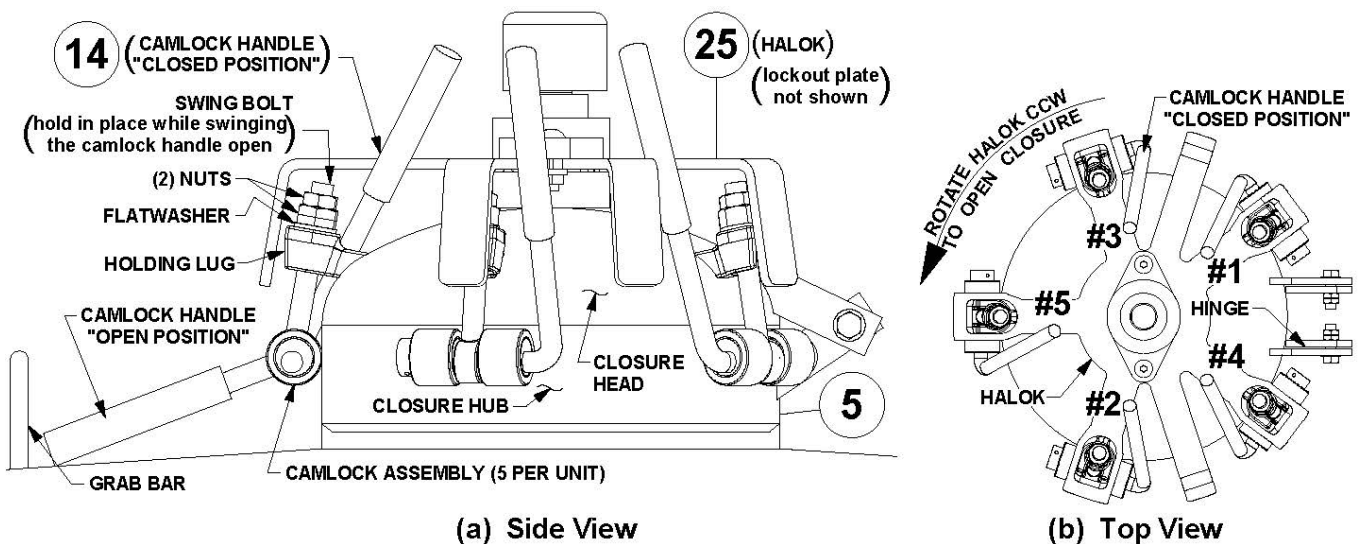

Figure 6.3.2 – Bulk Abrasive Blaster Closure Assembly
- 6.3.5. With all the camlock handles (#14) in the “open” position the Halok can be rotated counter-clockwise to allow access to the swing bolts (see Figure 6.3.2). Manually swing each swing bolt out over the holding lug.
6.3.7. Each time the closure assembly is opened all the camlock assemblies and hinge assemblies must be inspected for damage, including but not limited to, corrosion, cracks, and deformations. Make sure all the swing bolts, nuts, washers, cams, spring pins, and handles are in place (See Drawing 9.3(a)). Inspect the threads of each swing bolt and (2) nuts for corrosion or wear. Each camlock assembly and hinge must be tested for ease of operation. Any camlock, swing bolt, nut, or hinge that show signs of damage, corrosion, wear, or does not swing freely must be repaired or replaced *before* re-pressurizing the blast vessel. The camlock handles must be installed into the cam lugs as shown in Figure 6.3.2(b) so there is no interference with closure head handle or hinges and to insure proper operation of the closure Halok® (#25). The torque on the camlock assembly nuts must be properly adjusted. See Sections 8.4 and 8.5 for closure assembly maintenance instructions and adjustment procedures.